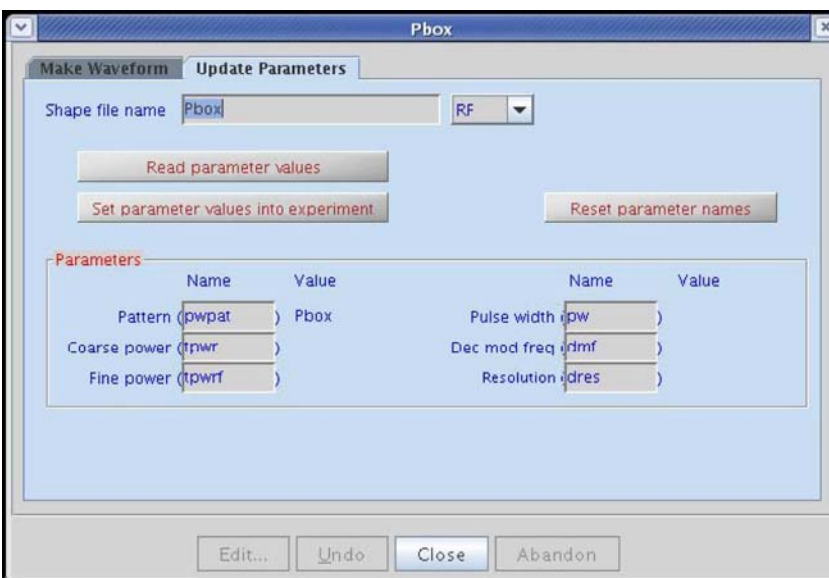

Figure 117 Pbox update parameters
- 1 Click the **Update Parameters** tab, see Figure 117.